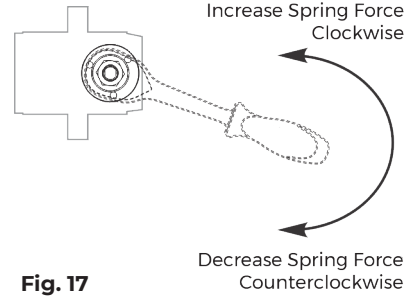

Fig. 17
1. Using 1/2" socket wrench with 3/4" deep well socket, turn nut in end of operator body tube to desired force. (Fig. 17)